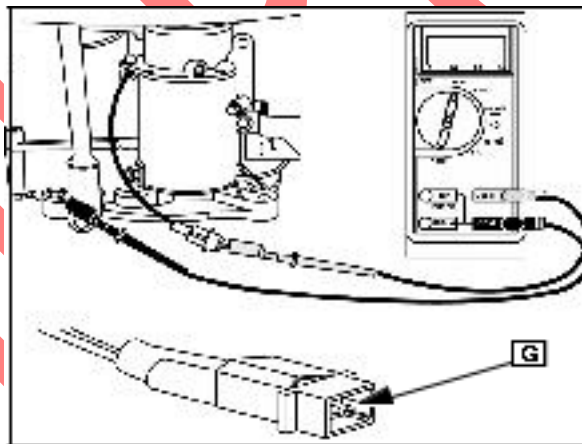
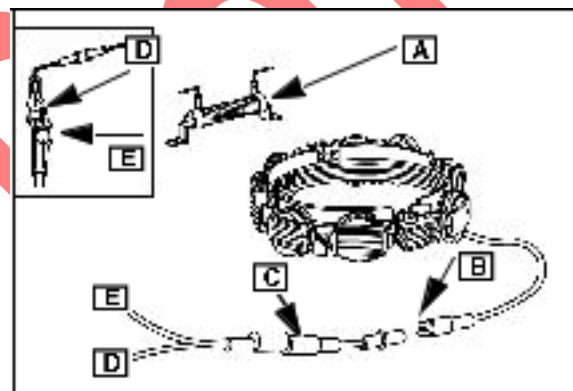

Fig. 29
Fig. 30
Attach RED test lead clip to AC output terminal ([G] Fig. 29).
The tri-circuit alternator provides AC through a single output lead and connector ([B] Fig. 29) to a wiring harness containing two diodes (C). One diode rectifies the AC to 5 amps negative (-) DC for lights (D). The second diode rectifies the AC to 5 amps positive (+) DC for battery charging and external loads ([E] Fig. 30).